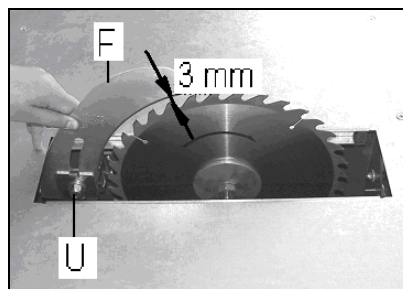

Fig 17
The raving knife (F, Fig 17) is clamped with 1 nut (U).